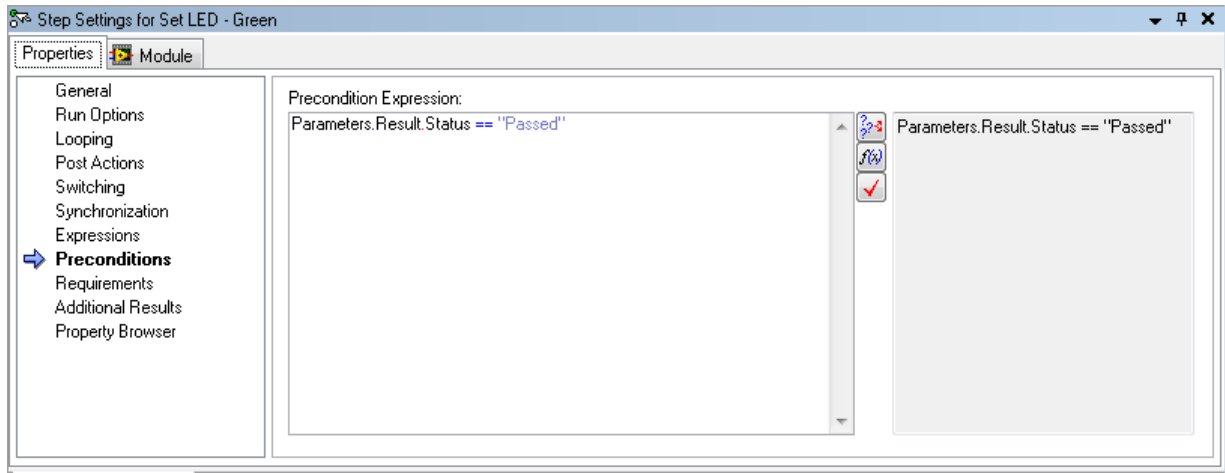

Figure 5-6. Configuring the Precondition Expression
- Enter the following expression in the Precondition expression field, as shown in Figure 5-6: `Parameters.Result.Status == "Passed"`.